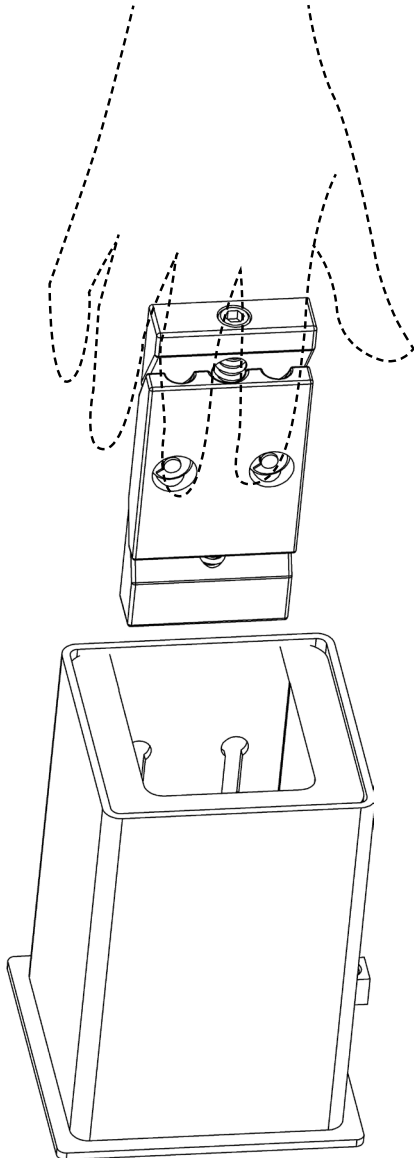

FIGURE 4
3. Position the wedge over the top of the anchor top up. FIGURE 4